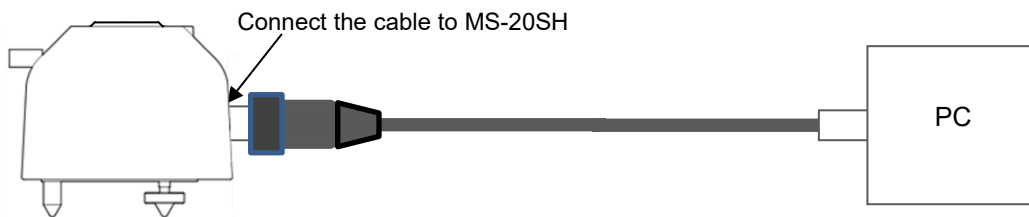

Figure A2-2. Using "EKO Converter cable"
- 4) If you use the optional 'EKO Converter Cable', you can install it simply by inserting the cable connector into the main unit. Power for the MS-20SH can be supplied via USB. (See Figure A2-2).